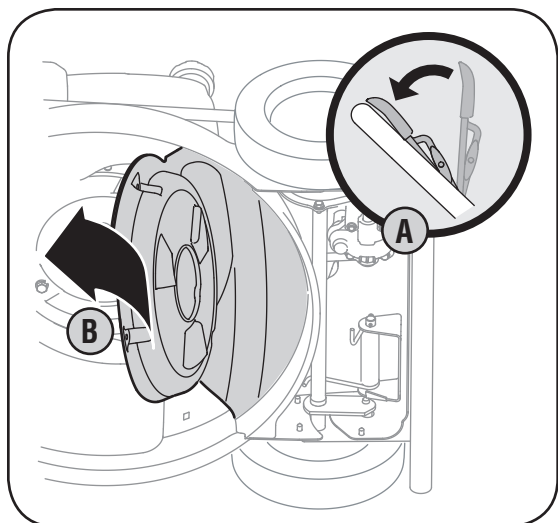

Figure 5-10: Engage the blade control to tighten the belt (A) and place baffle back onto deck (B).
19. Squeeze the blade control against the upper handle to tighten the belt. Return baffle back to its original position and release the blade control, Figure 5-10.